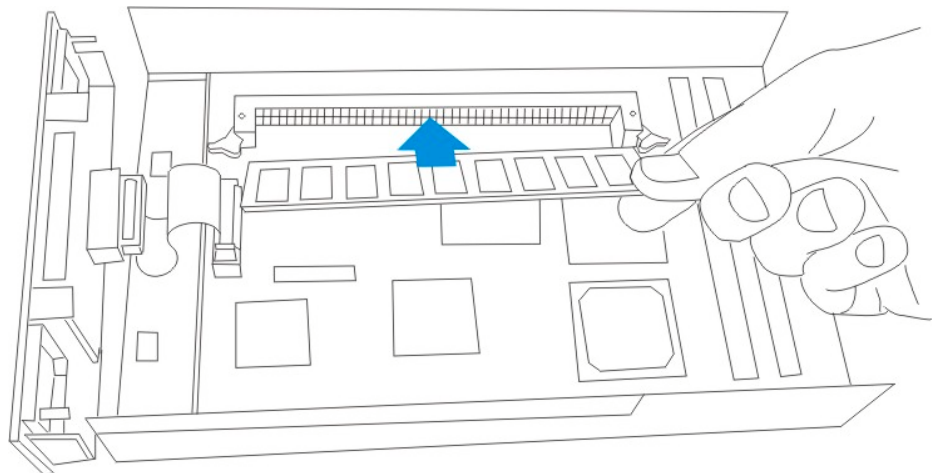

Figure 5-2: Install a DIMM Module
Step 6. Insert the new DIMM module. Once the old DIMM module has been removed the replacement DIMM module can be installed. To install the replacement DIMM module align it with the DIMM slot. Next, gently push the new DIMM module into the DIMM socket. The white clips on either side of the DIMM socket will automatically close and lock the new DIMM module into place. (See *Figure 5-2*)